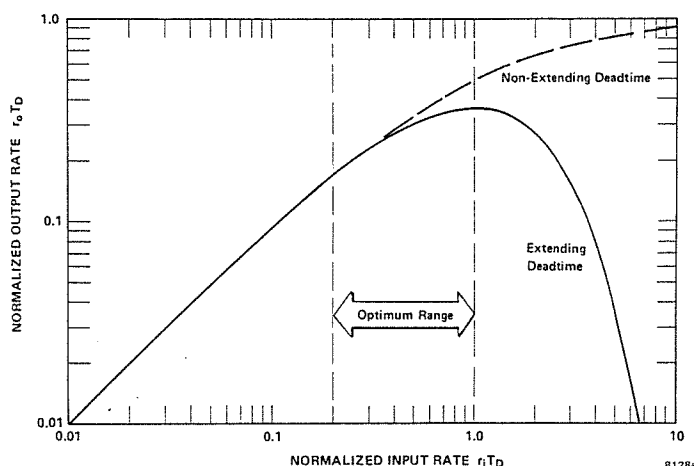

Fig. 4.7. Plot of Normalized Output Rate as a Function of Normalized Input Rate for Spectrometers with Simple Deadtime.
A normalized plot of Equation (1) is shown as the solid line in Fig. 4.7. The maximum mean output rate equals  $1/T_d \exp(1)$  and occurs when the mean input rate equals  $1/T_d$ . At this maximum output rate, the deadtime losses are 63.2%. For input count-rates exceeding  $1/T_d$ , the unpiled-up output rate decreases as the input rate increases.
where  $T_d$  is the digitizing time for the ADC and is designated  $T_M$  in Equation (3). This relationship is shown as the dashed line in Fig. 4.7. The maximum obtainable output count-rate is  $1/T_d$  and occurs at  $r_i = \infty$ .
counting rates. The amount of pile-up at high counting rates depends on the deadtime per pulse ( $T_d$ ), and hence the selected integration time.  $T_d$  is two times the front-panel integrate time ( $T_{INT}$ ). High count-rate for pile-up rejection occurs when the normalized count-rate  $r_i \cdot T_d > 0.5$ , where  $r_i$  is the amplifier input rate (see Fig. 4.7). For example, for 5- $\mu$ s integration,  $r_i$  is 50 kHz; for